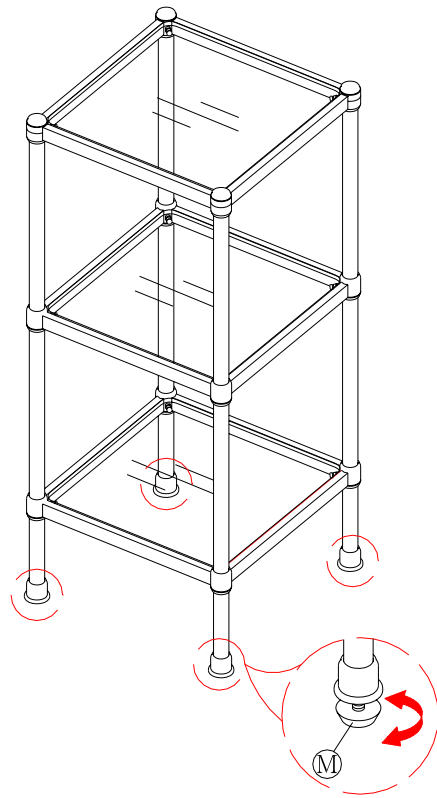

Fig. 6
9. If the floor is uneven, adjust the recessed levelers underneath the legs. To do this, carefully grasp one side of the étagère and elevate it slightly to provide access to the levelers. Turn the levelers until adequate contact is made with the floor. Carefully set the étagère down. Repeat until the étagère is level and stable (Fig. 6).